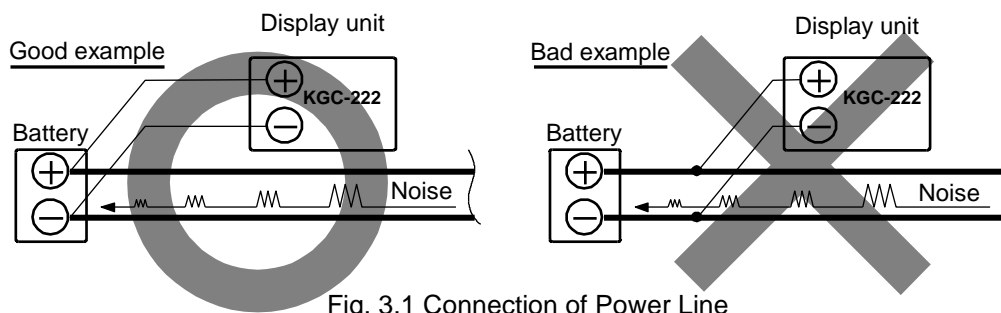

Fig. 3.1 Connection of Power Line
- (1) Keep the antenna cable and power cable as far away from the cables of other electronic equipment as possible.
- (2) The cabinet of Display unit shall be securely grounded to the hull, using the ground terminal on the rear panel.
- (3) If you connect the power cable directly to the battery, the interference from other electronic equipment is expected to be less. (See Fig. 3.1.)